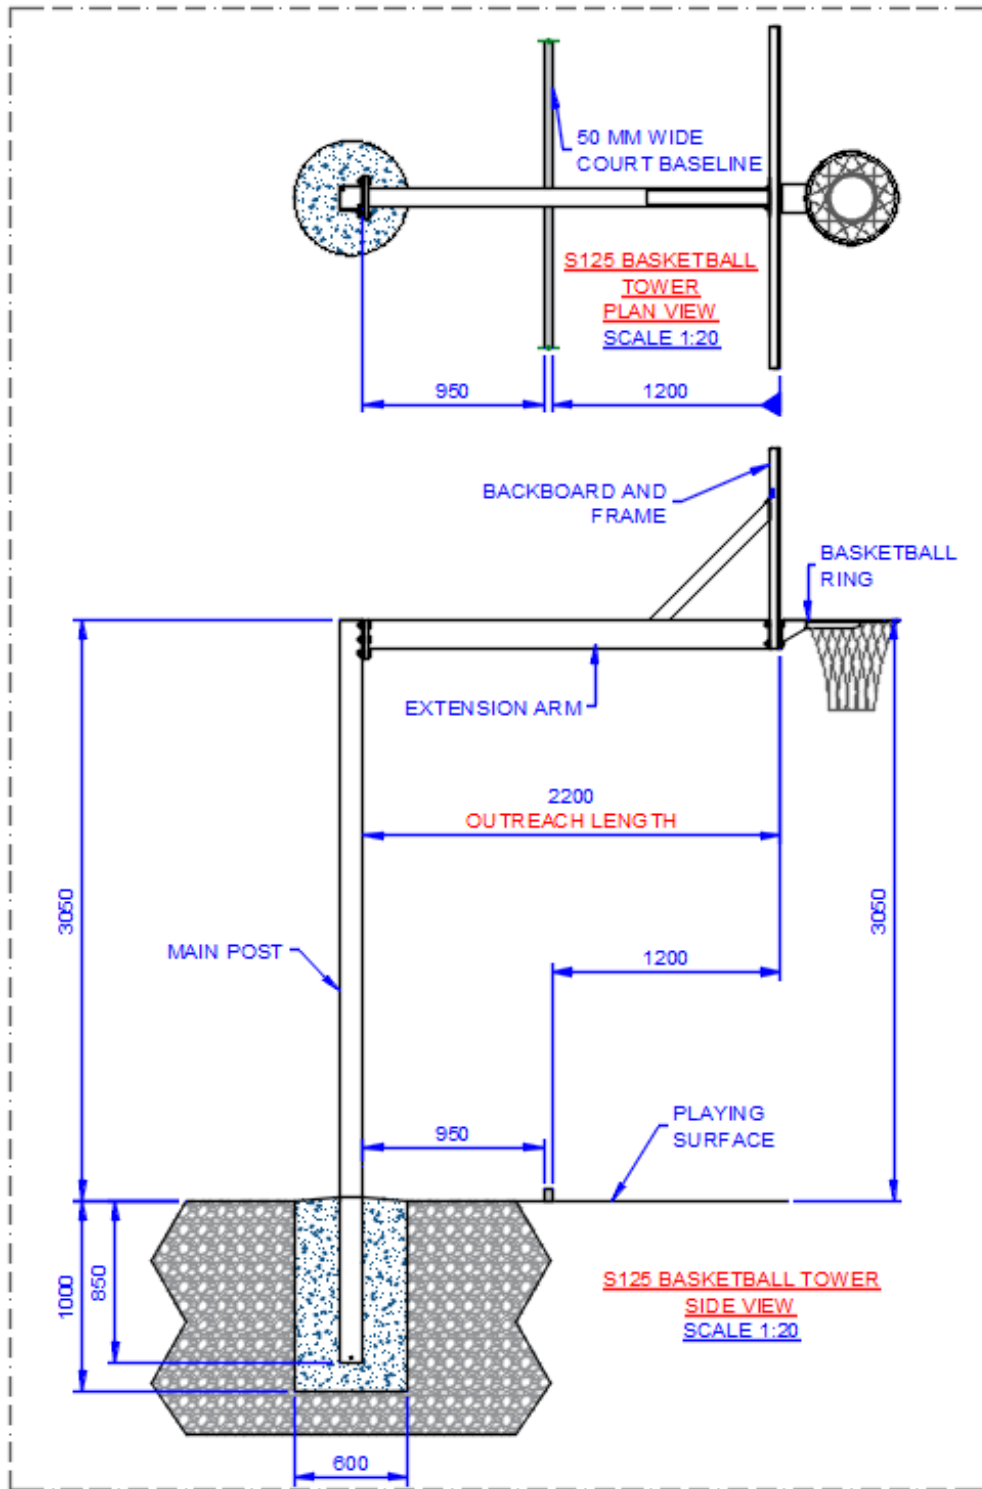

Figure 1: S125 Basketball Tower
- *Please refer to Figure 1 for further details. The post must be installed in a specific orientation as shown in the Figure and it is the Installer/Contractor responsible for ensuring that.*